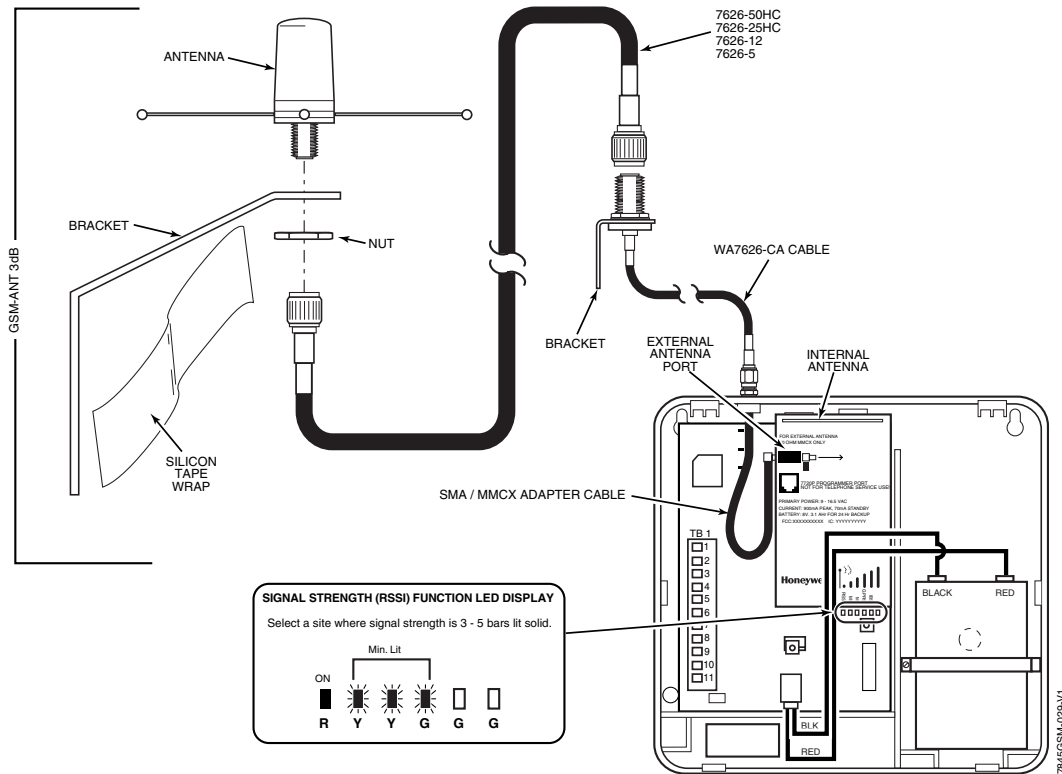

Figure 1 – GSM-ANT3dB Remote, Weatherproof Antenna Installation
5. Attach the antenna to the mounting bracket as shown in Figure 1.